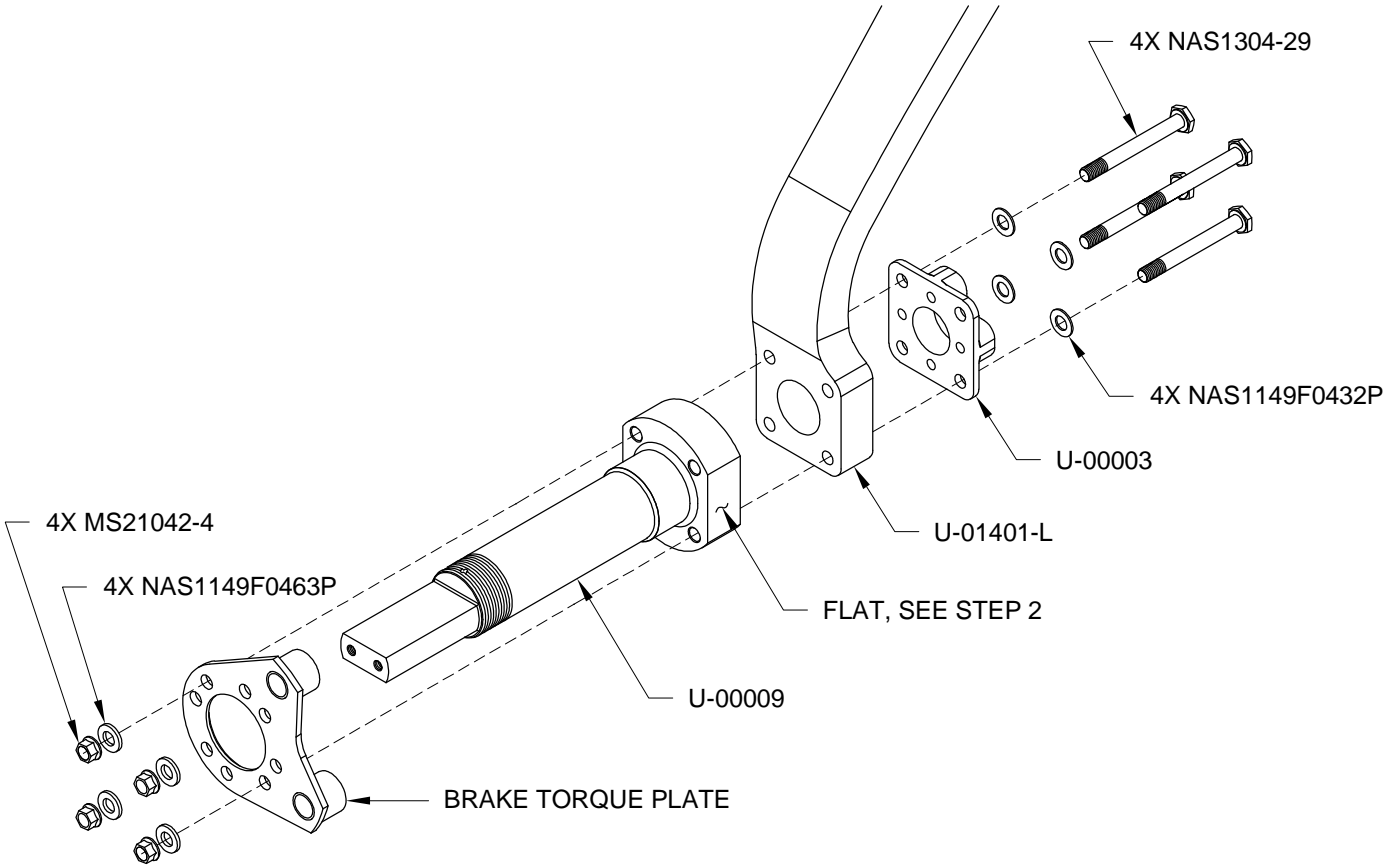

FIGURE 1: ATTACHING THE MAIN GEAR LEG AXLE
Step 1: Bolt together the U-00003 Bracket Mount, the U-01401-L Main Gear Leg, the U-00009 Axle, and the Brake Torque Plate using the hardware called out in Figure 1. Repeat for the right side.
Step 2: Check for correct alignment between the two U-00009 Axles as shown in Figure 2. The maximum allowable angle is 0.25° toe-in or toe-out. The spacers shown in the figure must be located on the front or back of the axles (parallel with the flats on the axle mounting flange, see Figure 1), and be the minimum thickness shown so that the taut thread will clear the back of the brake torque plates.